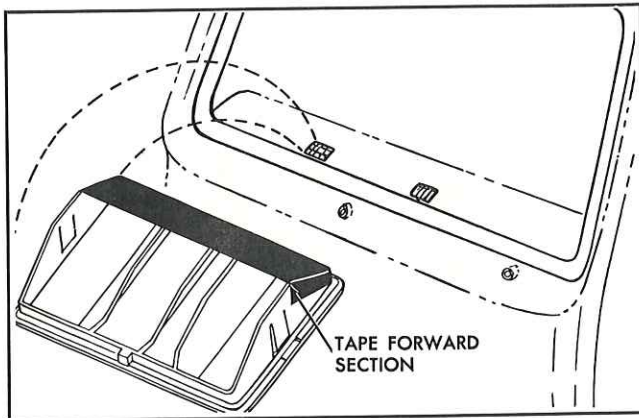

Fig. 14—Defroster Outlet Rework
2. Turn the outlets bottom up and close off the forward section with tape, as shown in Figure 14.